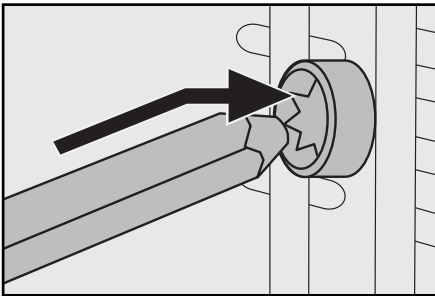

Fig. 1: Push the rotisserie **16** into the drive **1**.
- First push the end of the rotisserie **16** **without** the notch into the drive **1** (Figure 1):